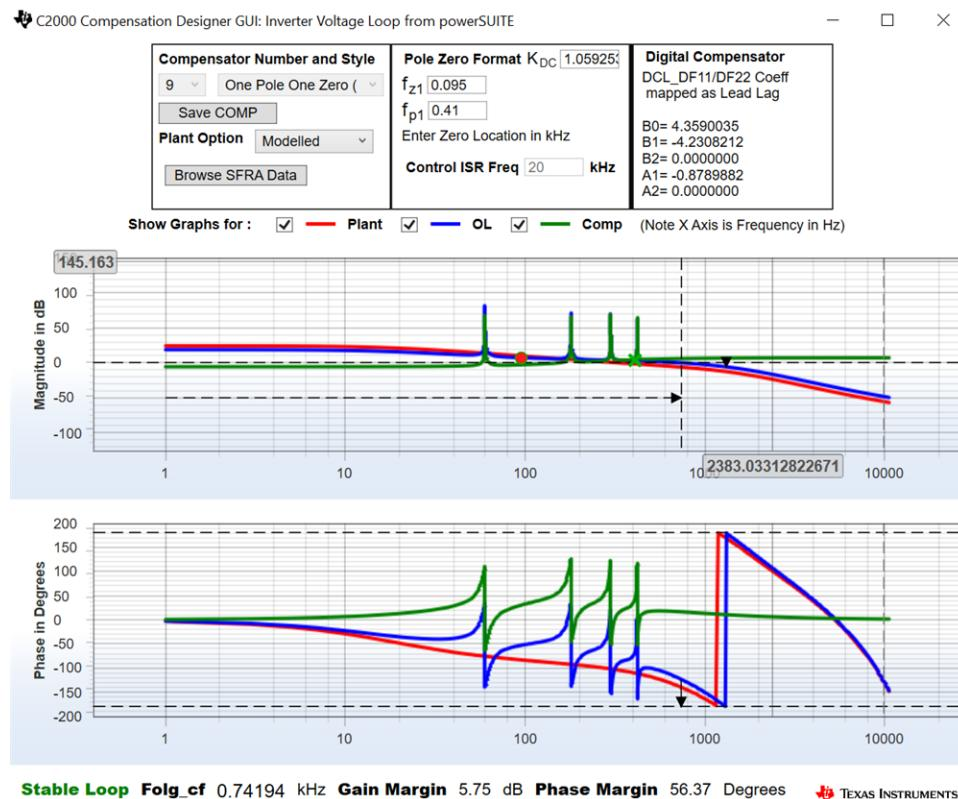

図 32. Voltage Loop Lag Compensation Tuning Using Compensation Designer
1. The compensation designer launches with the model of the voltage loop plant for the inverter with the current loop as shown in 図 32.